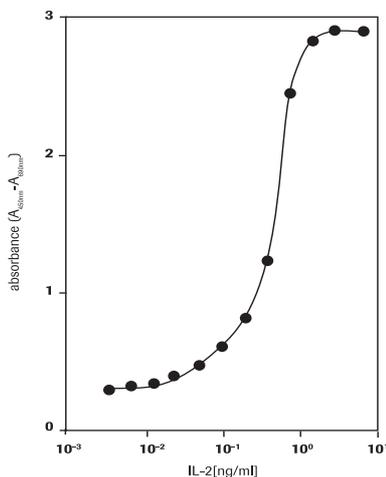

Fig. 1: Measurement of proliferation of CTLL-2 cells in response to human IL-2.
- The measurement of cell proliferation in response to growth factors, cytokines, mitogens and nutrients (see figure 1).
Determination of the activity of human interleukin-2 (IL-2) on the mouse T cell line CTLL-2 (see figure 1).